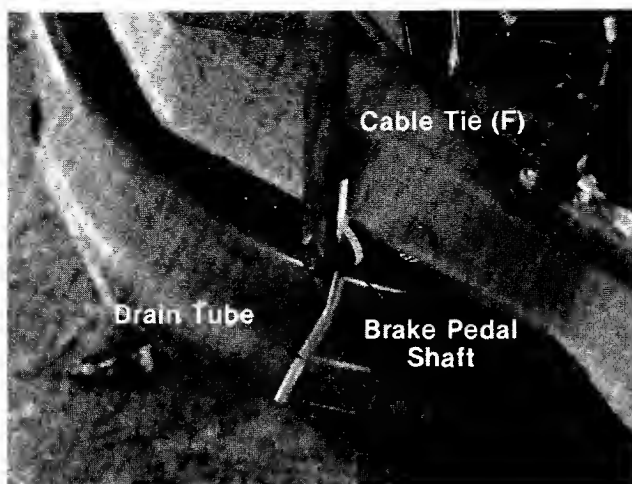

FIGURE 12.
11. Using cable tie (F), secure battery drain tube to the brake pedal shaft assembly. Cut off excess end. See figure 12.